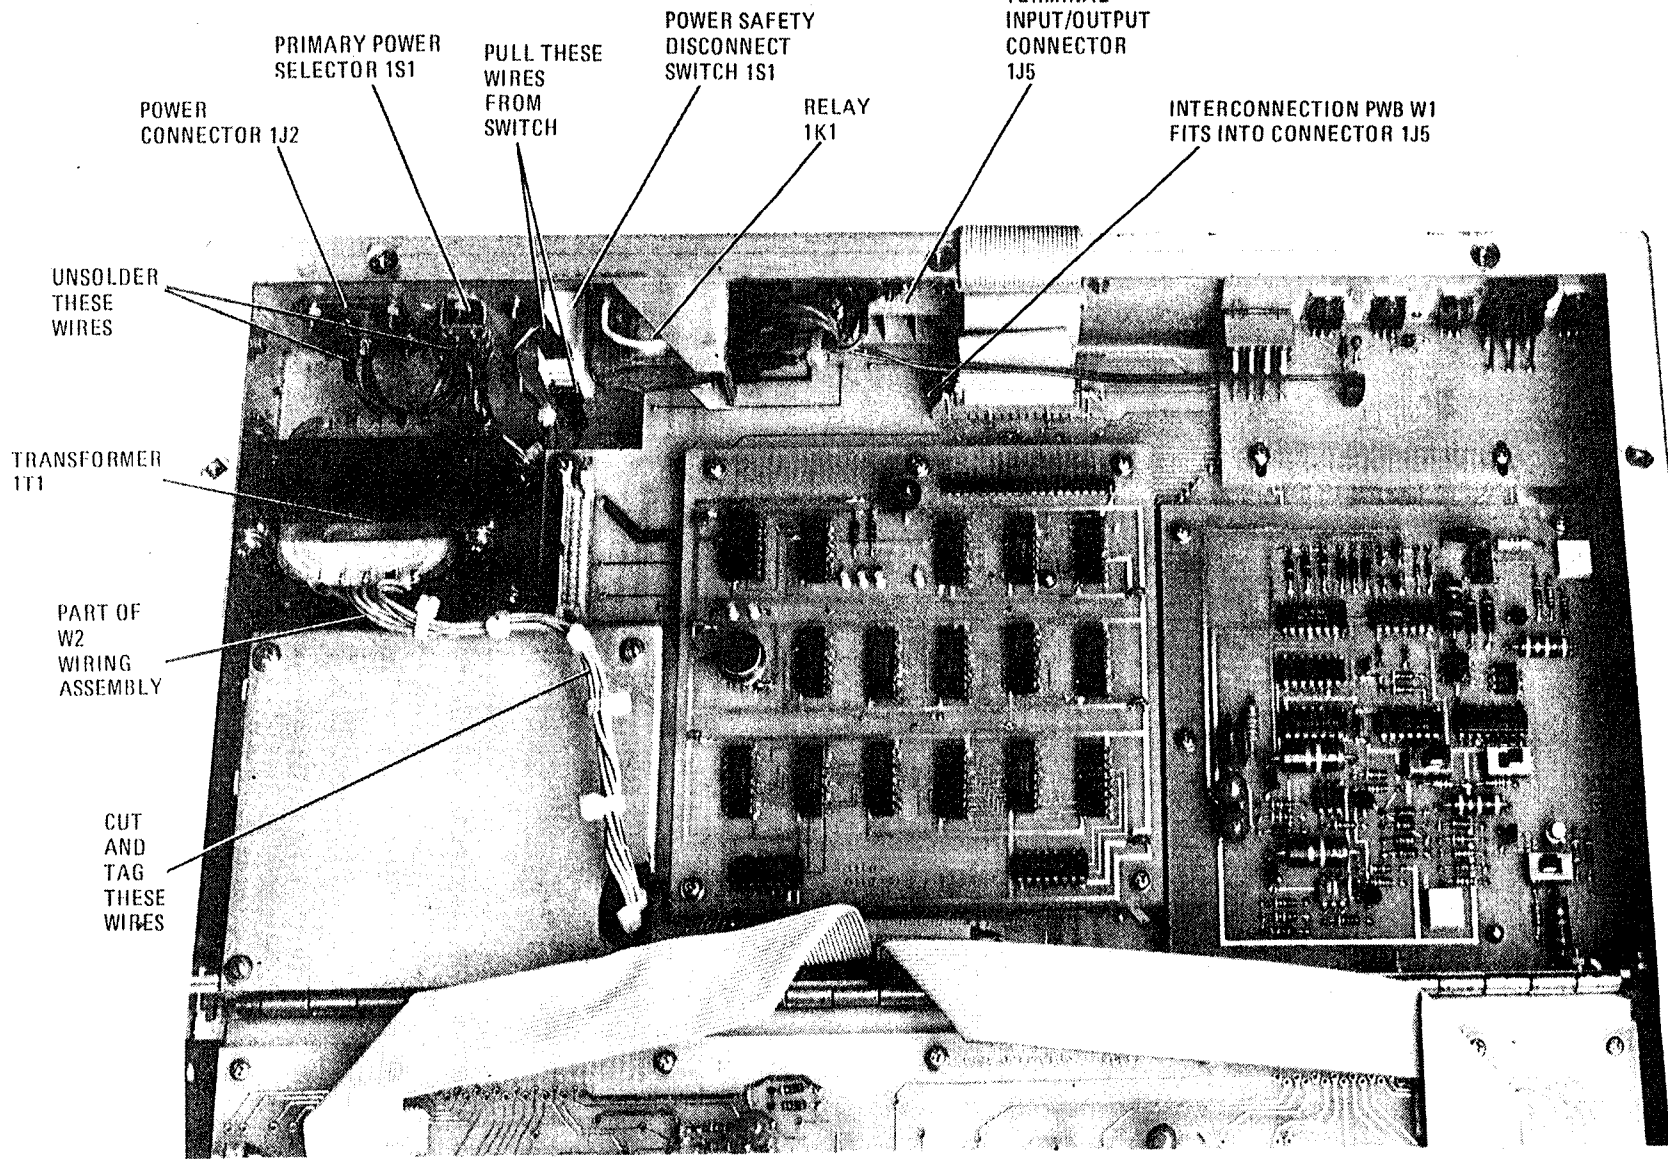

Figure 5-2. RF-3352 FSK Terminal - Transformer 1T1 and Inside Rear Panel Component Replacement Details
- c. Remove Cover (24).
- d. Remove the four standoffs (27) and, using a Philips-head screwdriver, loosen and remove No. 4-40 Screw, No. 4 Lockwasher, and No. 4 Flatwasher (21).
- e. Carefully separate Power Supply Pwb PS1 (25) from Interconnection Pwb W1 (19).
- a. Refer to Figure 5-2. Unsolder or cut and tag Transformer 1T1 wires as directed therein.
- b. Refer to Figure 5-2. Use a No. 10 Nut Driver and a flat blade screwdriver to loosen and remove the four No. 10-32 Hex Nuts, No. 10 Lockwashers, No. 10 Flatwashers, and No. 10-32 Screws (28).
- c. Carefully remove Transformer 1T1 (29) from Chassis (8).